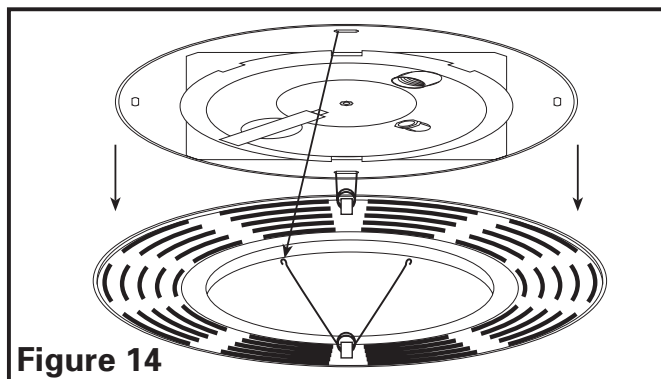

Figure 14
3. **Changing the Light Bulb:** Disconnect power to the unit. Remove grill by pulling downward on grill and squeezing grill springs together to release from housing (**Figure 14**).